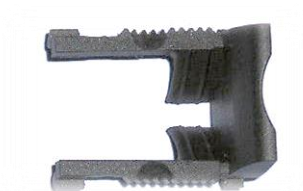

Figure 9
1. Locate the paper guides in a small bag packed with the printer and remove them. Note that the slotted, funnel-shaped opening is oriented towards the printer, and that the extended arms of the paper guide (→ Fig. 9) should point towards the middle of the printer. The paper guides are symmetrical and can be used on the left and right side equally.